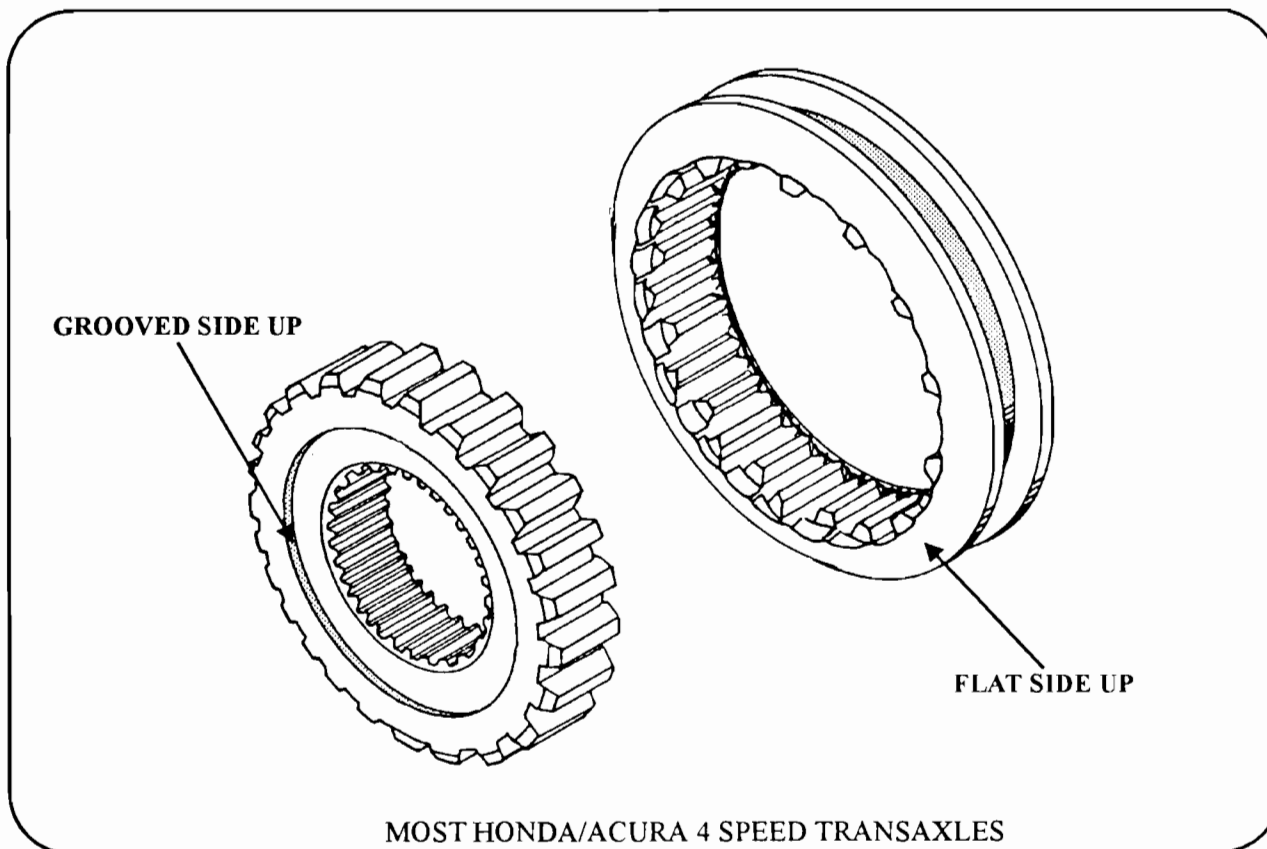

Figure 25
**Correction:** In most Honda 4 speed transaxles, the reverse selector is installed with the **FLAT SIDE UP**, and the selector hub is installed with the groove facing up. (See Figure 25)